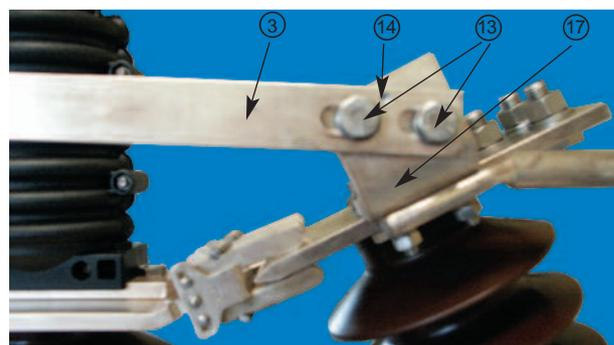

Fig. 23: Fixing of the contact arm (3)
Then fix the final position of the contact arm (3) by inserting a dowel pin 4x16 (14). (Fig. 23)